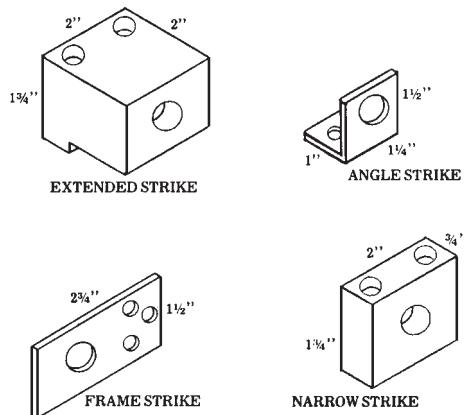

Figure 19.62 Strikes. (Security Engineering, Inc.)
4. Using the mounting holes in the lock base and strike as templates, mount the solenoid lock and strike with the screws provided. (Several types of strike are available and can be used depending on the situation. See Fig. 19.62.)